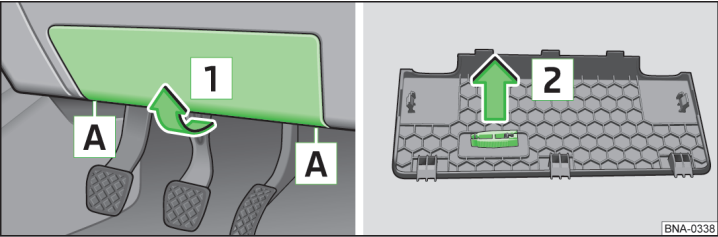

Fig. 102 Removing the fuse box cover/plastic clip for fuses
- Grip the fuse box cover at point [A] and remove it in the direction of arrow [1] » fig. 102.